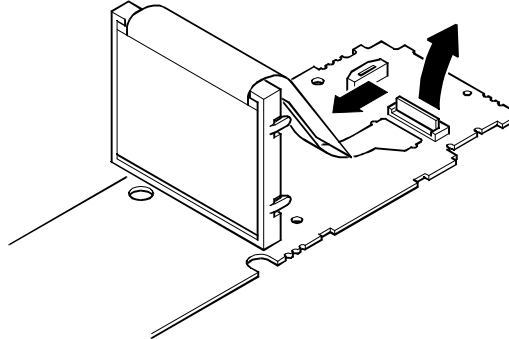

Figure 9: LCD disassembly (2)
11. (Figure 9) Disconnect the LCD from the logic PCB.